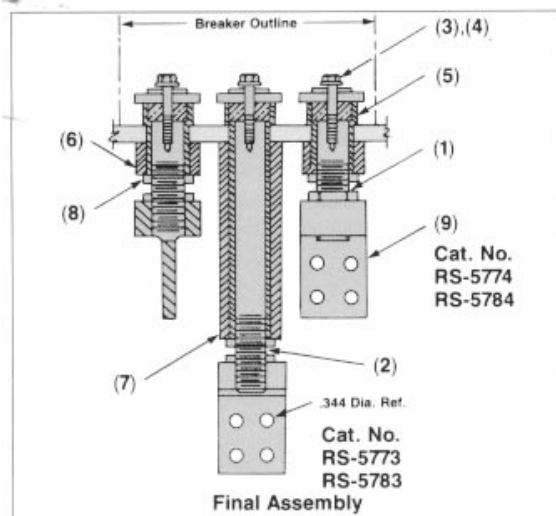

Figure 3
Final Assembly (Figure 3)
- C. Make desired bus bar connections with 5/16 in. bolts and washers to "T" connectors. (See Figure 3 for hole pattern of "T" connector).